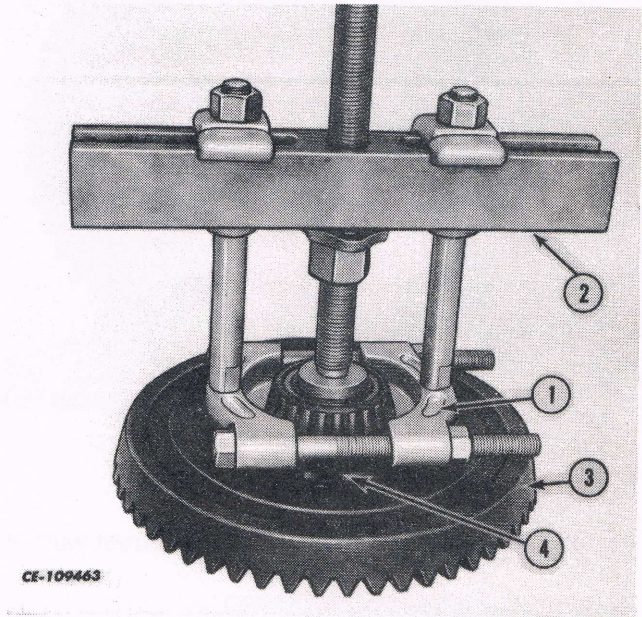

Fig. 7.
2. Using a cross bar and OTC-952A puller (1), remove the tapered roller bearing on the ring gear side of the differential. Remove the differential carrier (4) from the ring gear (3). See Fig. 7.